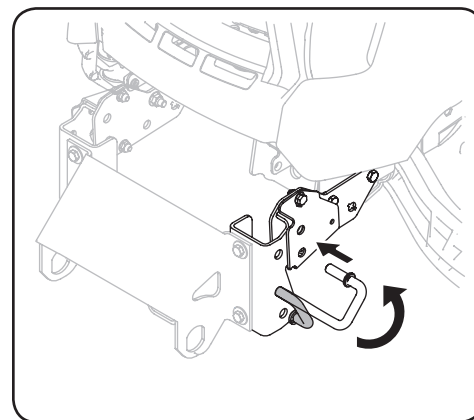

Figure 2-4
3. Pull spring pins outward on each side and rotate into place to lock. See Figure 2-4.